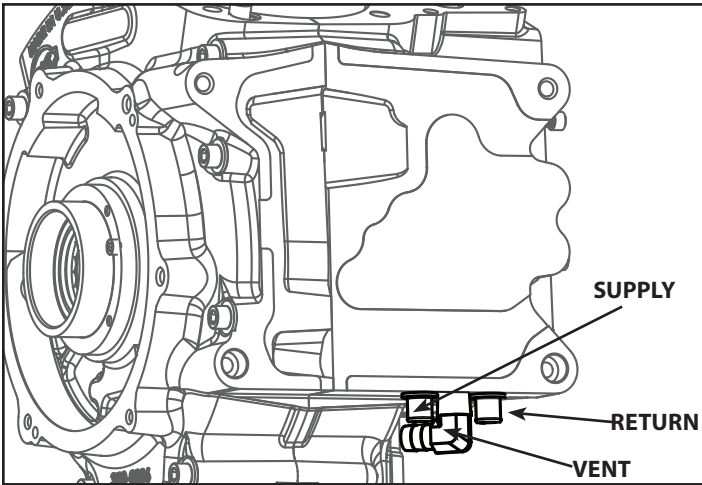

Figure 2
- a. before cutting any oil line. Refer to **Figures 2 & 3, above** for correct placement on crankcase.